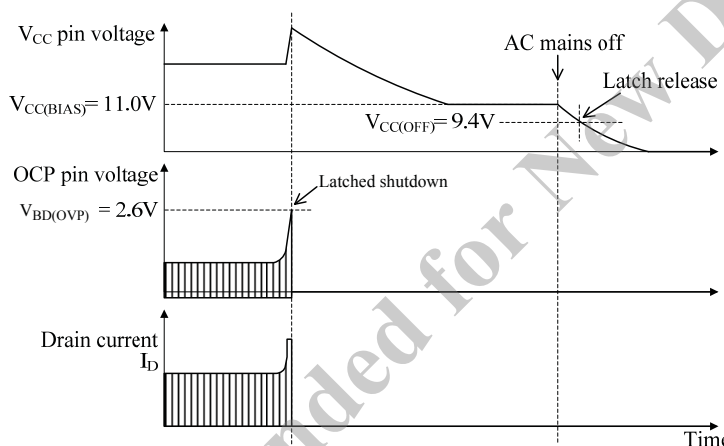

Figure 20. Waveforms when OCP pin OVP function is being activated
• OCP Pin Overvoltage Protection. Figure 20 shows the waveform of the OCP function on the OCP pin. When the OCP pin voltage with reference to the S/GND pin reaches  $V_{BD(OVP)} = 2.6\text{ V}$  or more, OVP is activated and the IC stops switching operation in latch mode. This input voltage must be less than the absolute maximum rating, 5V.